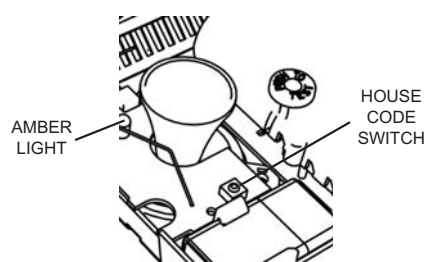

Figure 9
1. Pull cover open at tab. Press the house code switch and hold until the amber light comes on and then release. The amber light will then flash rapidly for about 1 second to indicate the unit is now in the house code mode (see fig 9&9a).